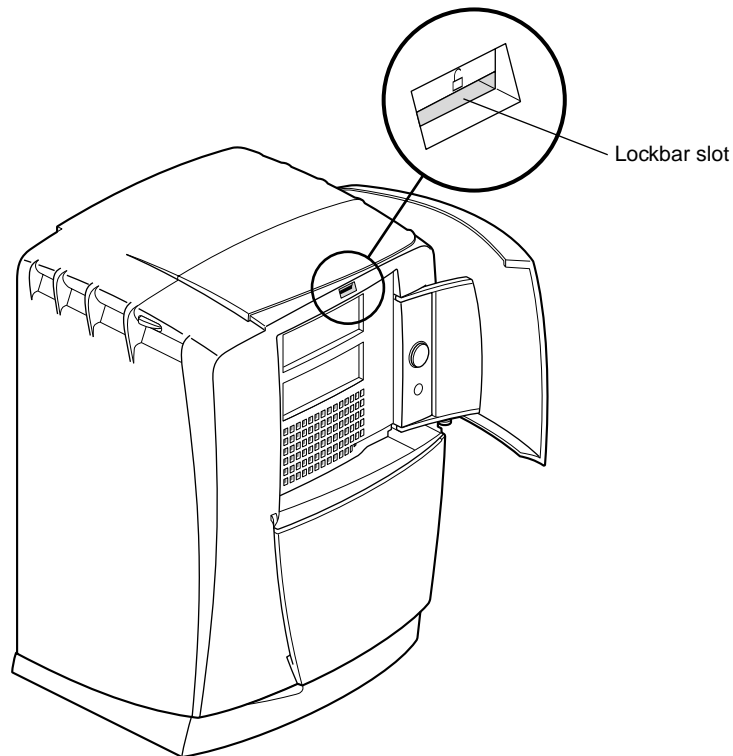

Figure 1-16 Locating the Lockbar Slot
2. Locate the lockbar slot as shown in Figure 1-16.